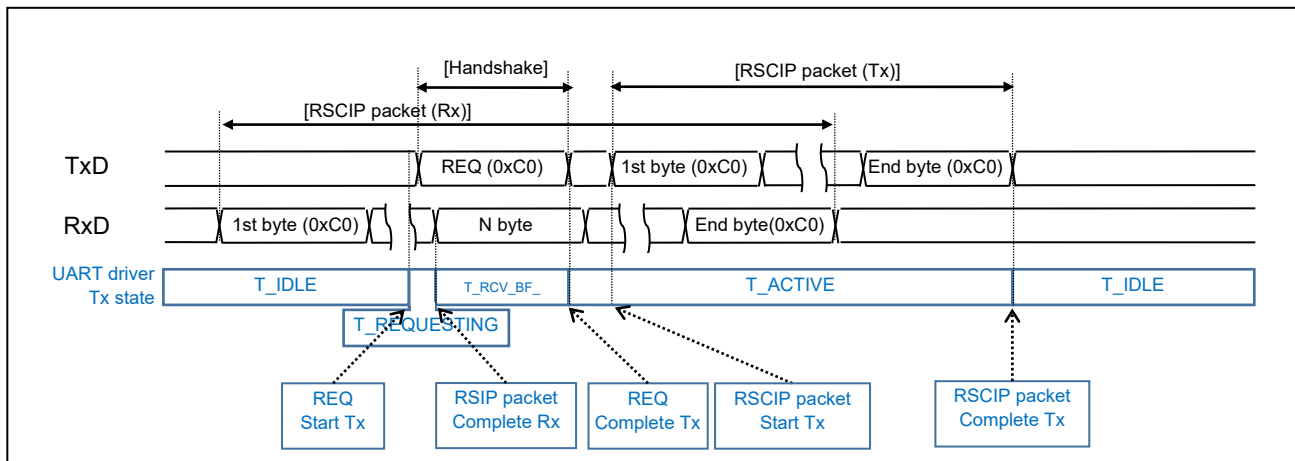

Figure 4-4 Host MCU is receiving RSCIP packet from the module
- (b) Host MCU is receiving RSCIP packet from the module (Figure 4-4)